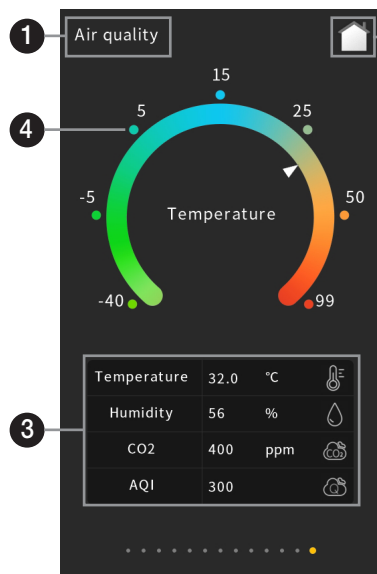
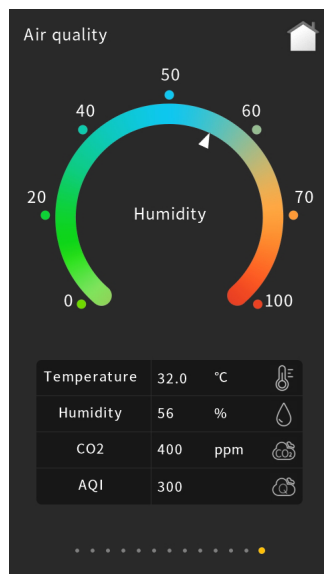
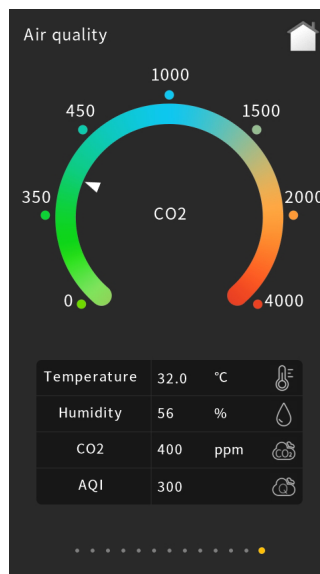
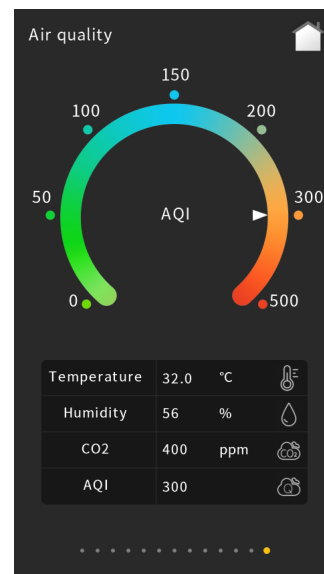

Fig. 2.9.1
Fig. 2.9.2
Fig. 2.9.3
Fig. 2.9.4
- ❶ - This area displays the page description identification of Air Quality Display function page;
- ❷ - Return to the home page by touching this icon;
- ❸ - This display area is the air quality parameter display list, can be configured through parameter configuration; Temperature, humidity, PM2.5, PM10, CO2, VOC, AQI, brightness, wind speed and rain status can be displayed by parameter configuration, an interface can be configured with up to four items to display.
- ❹ - This ring strip is used for displaying the air quality parameter value; Touch one of the items in the display list at the bottom of the interface, the pointer on the ring strip ❹ will point to the corresponding scale, such as Fig. 2.9.1 above is the display effect of temperature, Fig. 2.9.2 is the display effect of humidity, Fig. 2.9.3 is the display effect of CO2 and Fig. 2.9.4 is the display effect of AQI. You can see the display range of the corresponding item on the interface ring strip ❹: